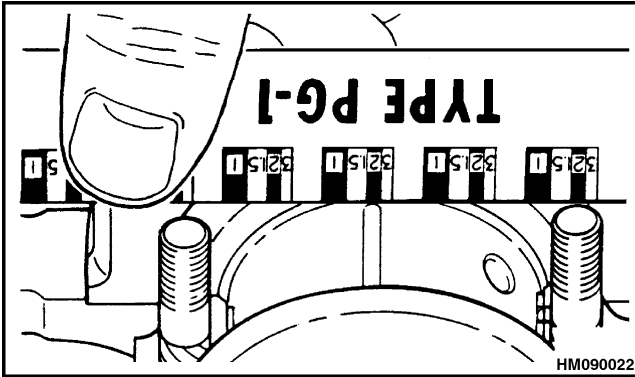

Figure 41. Bearing Journal Plastigage® Measurement
- c. Remove the bearing and bearing cap. The Plastigage will be compressed and wider and will adhere to either the bearing or its journal. Use the scale on the envelope for the Plastigage to measure the width of the plastic at its widest point. The scale will indicate the clearance in millimeters or thousandths of an inch. See Figure 41.